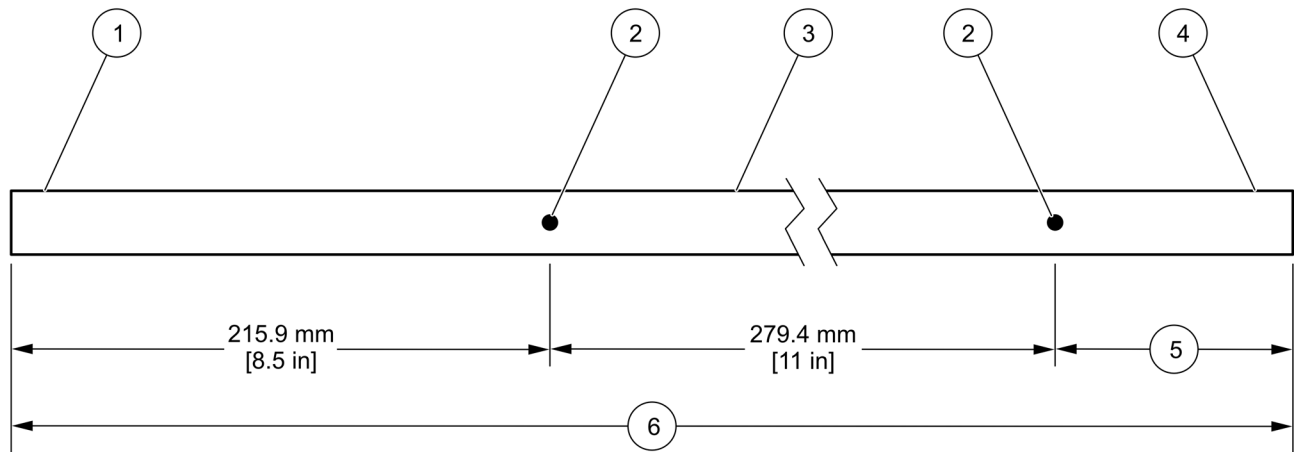

Figure 32 Pump tubing measurement
2. If using bulk pump tubing, cut a 23.25 inch piece (24.25 inches for the AWRS) and mark the tube with alignment dots at the locations shown in Figure 32 on page 77.